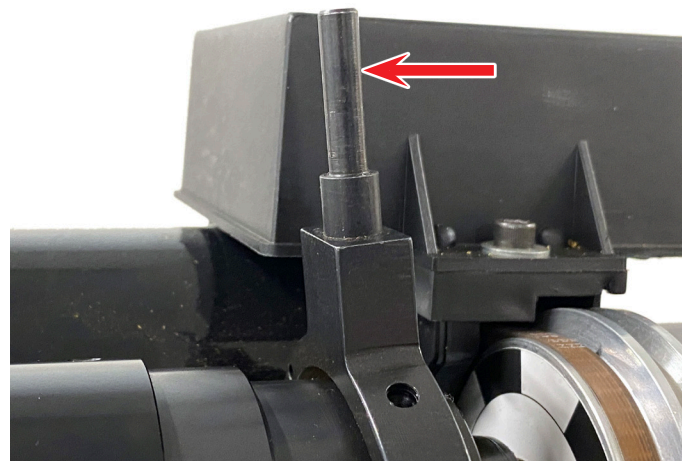

FIGURE 6—The red arrow is showing P/N 88279 installed onto the LCC yoke.
4. Insert the Lever Collet Closer “Stud” (P/N 88279) into the LCC “Yoke” in place of the engagement lever (see Figure 6). Use a drop of Loctite # 242 or # 262 on the threads and tighten the stud so it will not unthread when used.